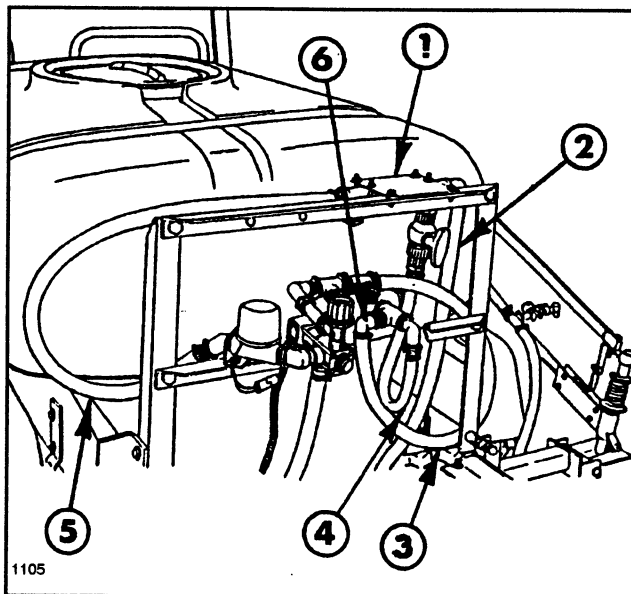

FIG. 16
15. Apply sealer and install the 1" 90 degree hose barb in the rear tank tee (FIG. 16).
10. Apply sealer and install the 1" x 1" hose barb into the L.H. end of the tee assembly and a 1" x 3/4" hose barb into the ball valve at the tee assembly. See FIG. 16.
11. Mount the tee assembly and bracket to the upper cross support with (2) 5/16" x 1" hex hd cap screws, flat washers, lockwashers, and nuts (FIG. 16).
12. Install a 1" quick coupler on the end of the 1" x 100" supply hose and secure with a hose clamp. Connect the supply hose to the discharge port on the pump with the quick coupler. Route the hose along the left side of the vehicle under the tank, and connect to the hose barb on the right side of the tee assembly and secure with a hose clamp (FIG. 16). Secure hose at cable mounting bracket and rear cross member with tie straps.
14. Connect the 1" x 42" supply hose to the 1" hose barb on the tee assembly and 1" hose barb in the control valve. Secure with hose clamps (FIG. 16).
15. Connect the 3/4" x 28" agitator hose to the 3/4" hose barb in the ball valve and connect to the hose barb on the rear of the tank. Secure the hose with hose clamps (FIG. 16).
16. Connect the 1" x 42" overflow hose to the 1" hose barb in the end of the electric solenoid assembly and connect to the 90 degree hose barb on the left side of the rear tank tee. Secure with hose clamps (FIG. 16).